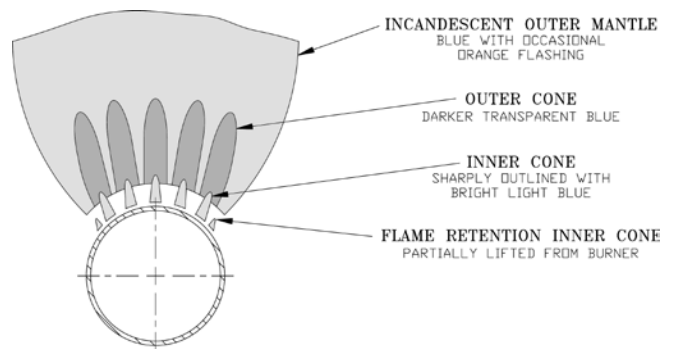

Figure 23: 40mm Main Burner Flame
5. MAIN BURNER FLAMES should have a clearly defined inner cone (see Figure 23 or 24) with no yellow tipping. Orange-yellow streaks caused by dust should not be confused with true yellow tipping. The main burners in this boiler will not operate cleanly or efficiently if they are contaminated with dirt and/or construction dust. Burners should be cleaned and the combustion chamber vacuumed following instructions in Section IV. Service.